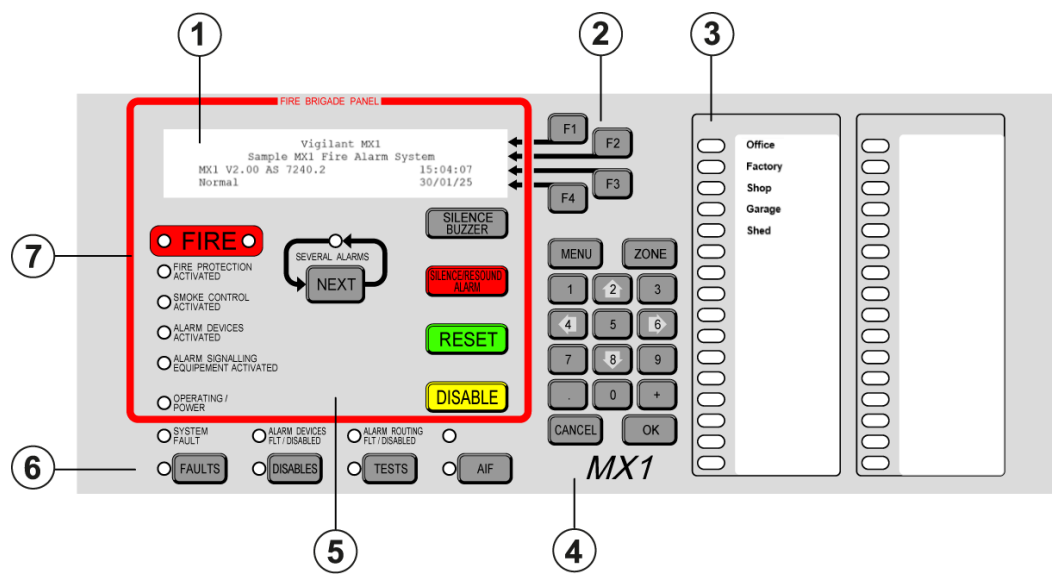

Fig 1-1 – Operator interface
- The LCD reports that the system is normal and shows the current time and date, as shown in Figure 1.1.
- If the general state of the operator interface is not as shown in Figure 1.1, see the information in Chapters 2 and 3 for instructions on managing the alarm, fault, test or disable condition.